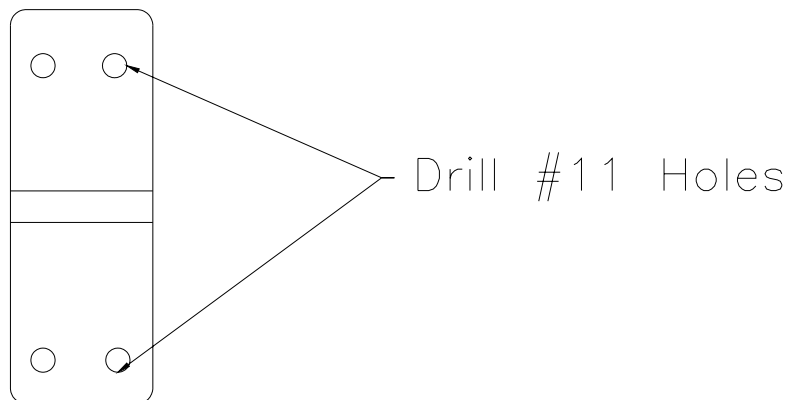

Figure 20.3.13
17) Drill four #11 holes through the elevator stop (CC-67) into the carrythroughs (FUS-5). Figure 20.3.13.